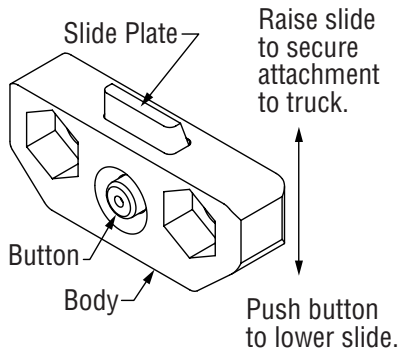

Figure 5-2, Quick Change Hook
4. Slightly raise the truck carriage to allow the removal of the bottom mounting hooks. If the attachment is equipped with quick change hooks, simply press the slide plate release button and drop the slide plate down. (Figure 5-2)